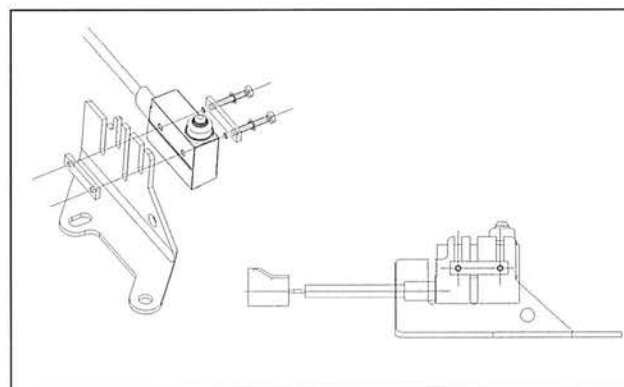

Fig. 20
- Attach the fuel pump switch to the mounting bracket as shown in Figure 20. There are two sets of slots in the bracket. Attach the switch using the pair of shorter slots as illustrated in Figure 20. Do not tighten the mounting screws at this time.